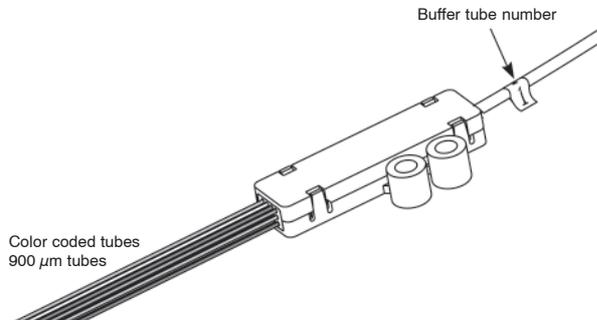

Figure 29
**10.1** To aid in the identification and maintenance of the fan-out assemblies, use numbered wire markers to individually identify each BTF with respect to its buffer tube number if the buffer tubes are not easily distinguished (Figure 29).